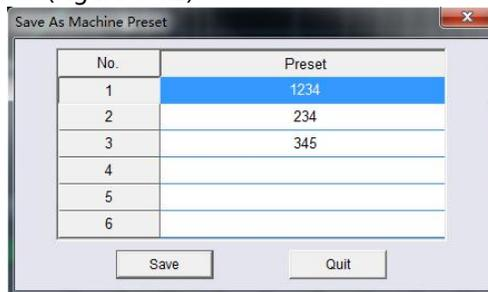

Figure 3.4.2
**Step2:** Click "Save as machine preset " item will pop up after the Save As dialog window machine preset (Figure 3.4.2).
**Step 3:** Figure 3.4.2 dialog box, does not show the name of the data indicates that this scene is the factory default data, select the user preset number you want to save the machine location (such as Option 4), and then point below the "save" button, you pop up as shown in Figure 3.4.3," enter the scene name "box. **If you select the number of the existing scene name, it will overwrite the original data!!**